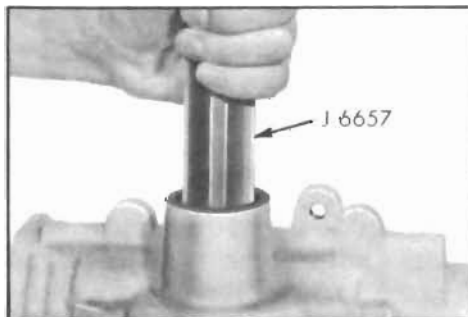

Figure 8-48—Removing Pitman Shaft Needle Bearing
2. Check the pitman shaft needle bearing for wear, pitting, or scoring. If damaged, remove needle bearing from gear housing bore by driving from the seal bore side of housing using Tool J-6657. See Figure 8-48. Discard bearing.